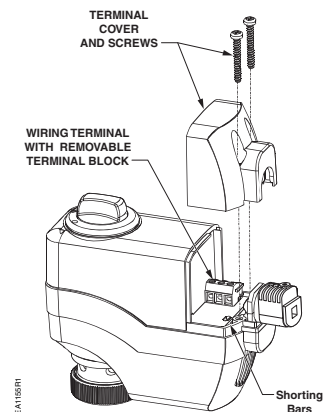

Figure 2. Manually Clearing Calibration Stroke from Memory.
3. With power applied to the unit, insert and gently twist a flat-blade screwdriver to electrically connect the shorting bars (Figure 2). The SSC61... then performs a new calibration stroke.